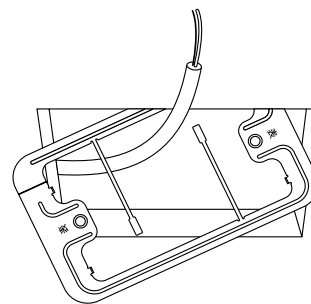

Fig. 11-26
3. Pass the wire through the provided mounting bracket and insert the bracket into the installation hole. (Fig. 11-26)